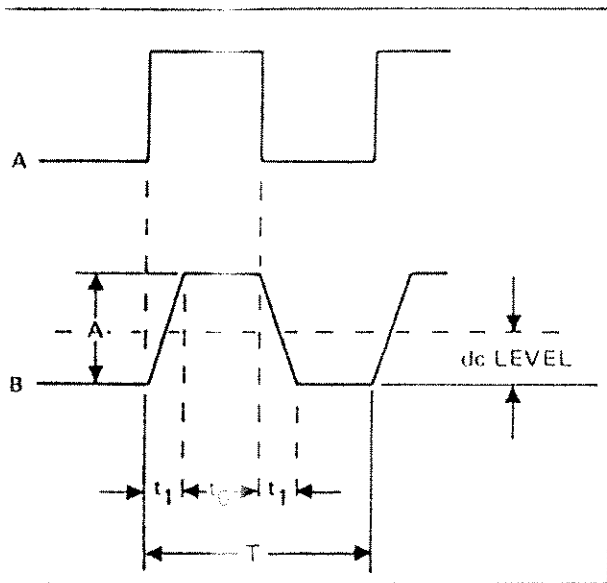

Figure 2-7. Components of a Rectangular Waveform
2-69. Ideally, the rectangular pulses would have zero rise and fall time and would be the right angled waveform shown in Figure 2-7, Part A. In practice, every waveform has a rise and fall time and looks more like the waveform in Figure 2-7, Part B. When calculating the error caused by the bandwidth of your instrument, we will assume that the rise and fall time equals the slew rate of $1.75 \text{ } \mu\text{sec}$. To do this, we will calculate the values for the theoretical signal with zero rise and fall time, then calculate the values for a signal with the same period but with total slope periods equal to $1.75 \text{ } \mu\text{sec}$. A comparison of the results will show the measurement error due to the finite
bandwidth. Using Figure 2-7, Part B, for a reference, the total rms and dc levels are:
71. Let's look at the waveform in Figure 2-7, Part B. When using your meter to measure the ac component of a signal, the display will indicate the rms value of the ac riding on the dc level. (This dc level is the average value of the waveform relative to the baseline.) The total rms value of the waveform can be calculated using the relationship: